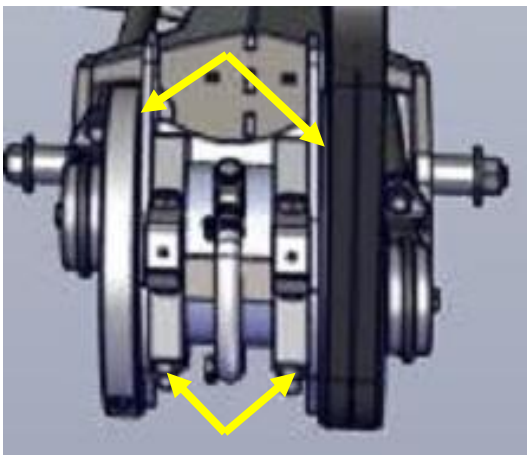

Figure 40
10. Center the bearing assembly in the drive paddle making certain that the flywheels are the same distance from the paddle. Use red Loctite and tighten the bolts to 120 ft. lbs. Figure 40